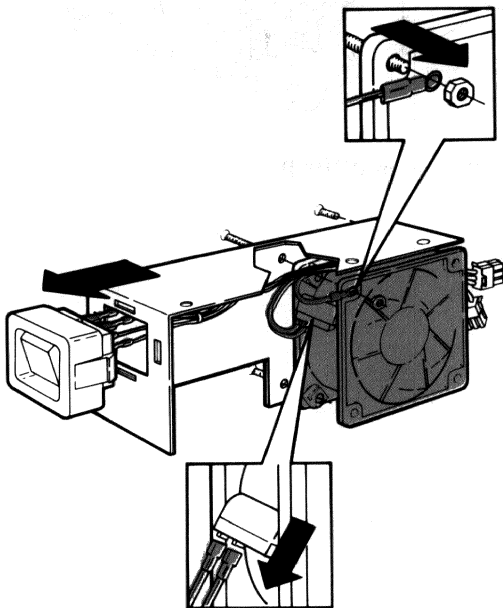

Figure 5-28 Fan in PC100A
3. Remove the power switch and unplug the two wires on the fan (Figure 5-28).
4. Remove the four screws that hold the fan in place (Figure 5-28).